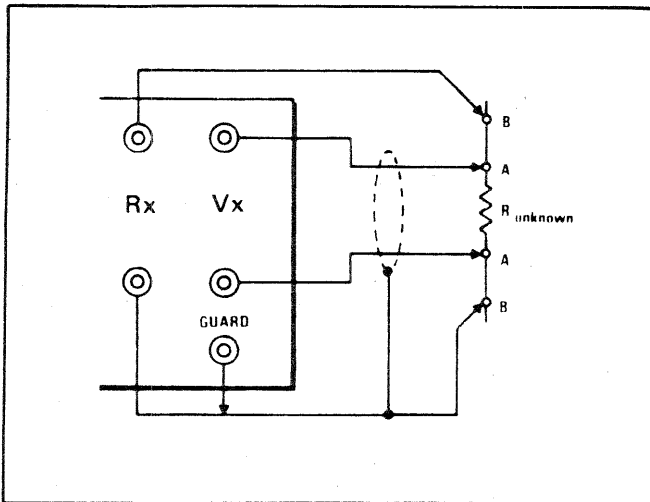

Fig. 2-5. Resistance Measurement, 4-wire
a. Connect input resistance in one of the input configurations shown in Figure 2-5 or 2-6. Four-wire connections, if possible, provide the most accurate measurement of the unknown resistance, eliminating effects of lead length and contact resistance in the conversion. Observe precautions of maximum input voltage if "live circuits" are to be measured.